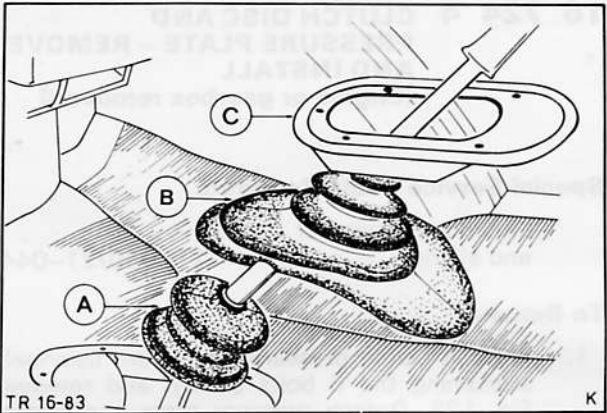

Fig. 135. A – Bottom rubber gaiter
2. Remove cover plate (6 screws), Fig. 135.